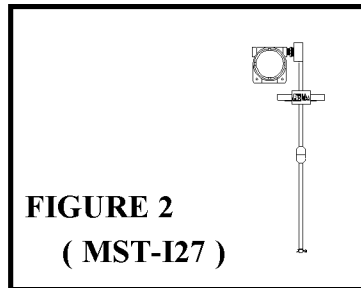

FIGURE 2
2. **MST-I27:** This configuration uses the same principle as in the #1 design above, but the float has a hole through it's center, and goes around the sensing tube. This device is inserted into the vessel instead of being mounted to a PM26 chamber external to the vessel. See Figure 2 below.